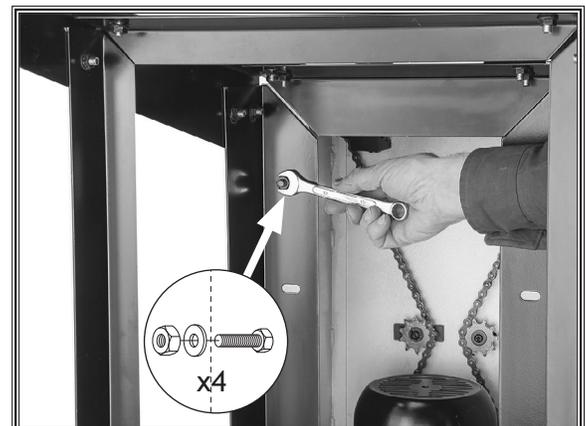

Figure 10. Mounting sander to stand.
12. Secure stand to sander with (4) M8-1.25 x 20 hex bolts, (8) 8mm flat washers, and (4) M8-1.25 hex nuts, as shown in **Figure 10**.